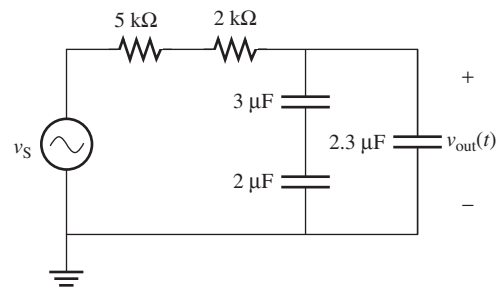

FIGURE P7.3 Circuit for Problem 7.3.
7.3 (A) Find the transfer function for the filter of Figure P7.3.